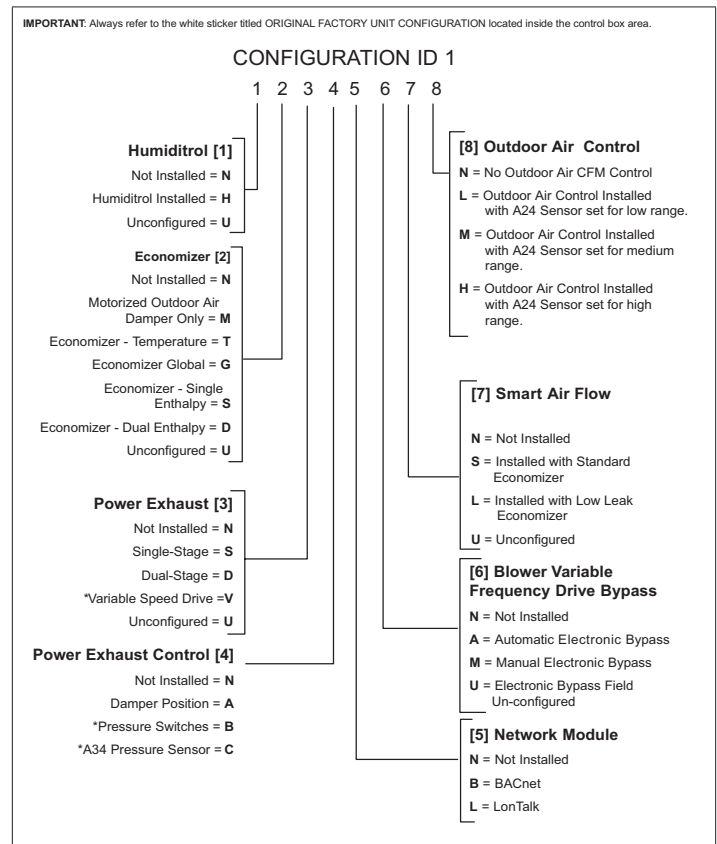

Figure 38. Configuration ID 1
- RTU Information. Configuration ID 1 and 2 can be entered here. See figures “Figure 38. Configuration ID 1” on page 67 and “Figure 39. Configuration ID 2” on page 68 for further details.